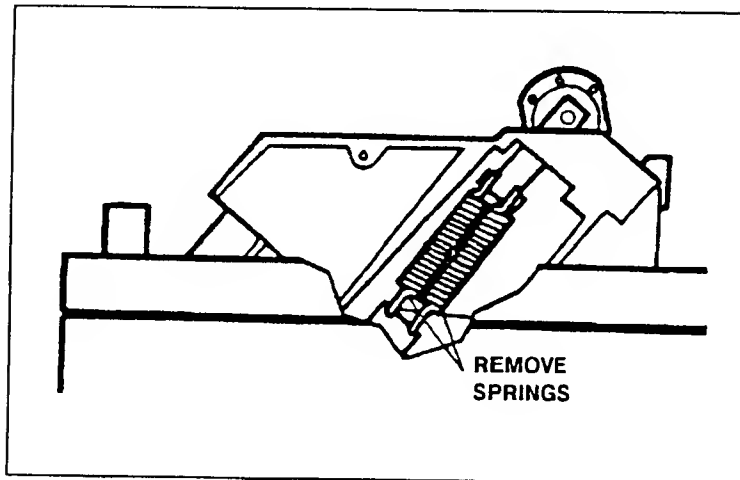

Figure 6-16. Platen Tension Springs
- c. With the platen lever towards the front of the printer (closed), use a needle-nose pliers or spring removal tool to remove the springs from the right side of the printer (see Figure 6-16).